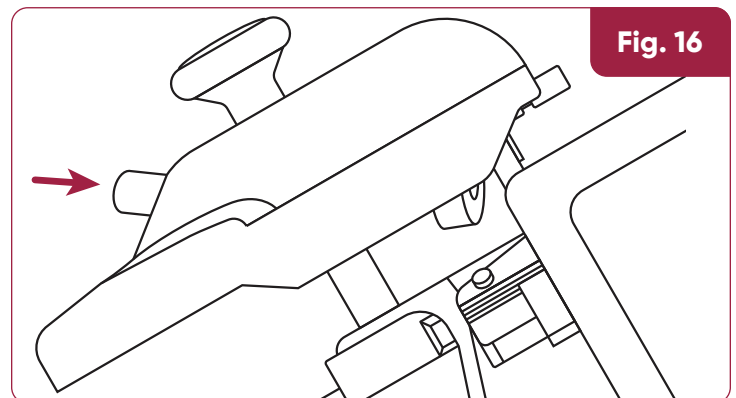

Fig. 16
6. Press rear button on sharpener (Fig. 16). The blade should come into contact with the two grinders.